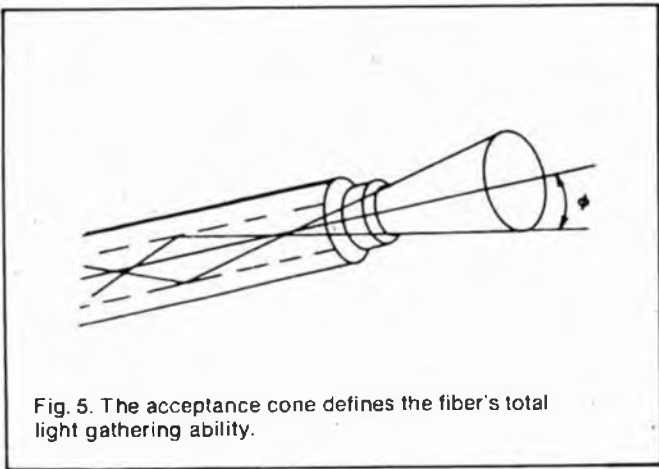

Fig. 5. The acceptance cone defines the fiber's total light gathering ability.
**The Acceptance Core.** A large core accepts more light than a small one. The numeric aperture (NA) is a measurement of the amount of light that can be accepted by a fiber. Because light is reflected only if it strikes the cladding at greater than the critical angle, we can form a cone: the acceptance cone (Fig. 5).
Fig. 5. Solid-state bridge rectifier provides full-wave rectification with centertapped transformer by using four diodes. Very often, the four diodes are packaged in plastic and only four connecting leads show.